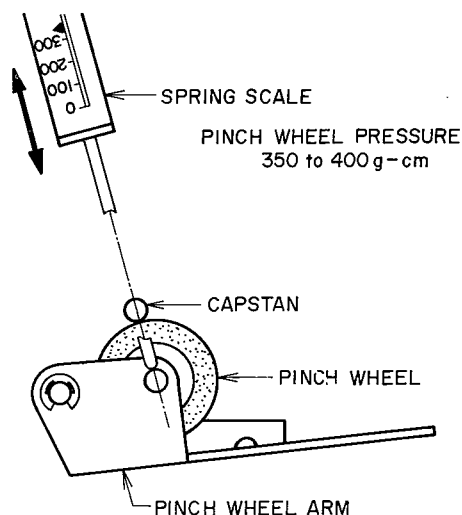

Fig. 16
13. PINCH WHEEL PRESSURE MEASURING METHOD (Refer to Fig. 16)